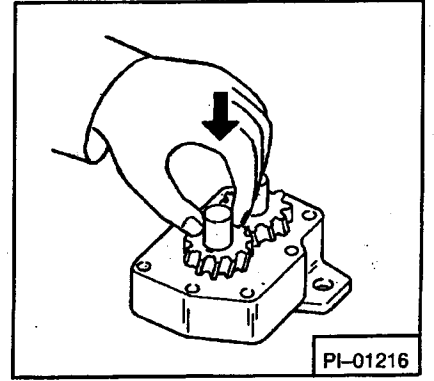

Fig. 4-35 Install Idler Gears
7. Install idler gear and shaft assembly (Fig. 4-35).